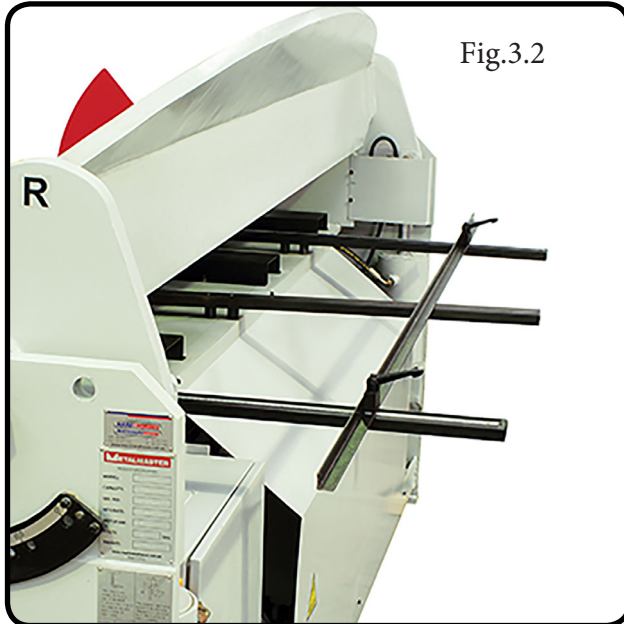

Fig.3.2
- ☐ Bolt on the arms that support the back gauge. Ensure they are square to the table. (Fig 3.2)